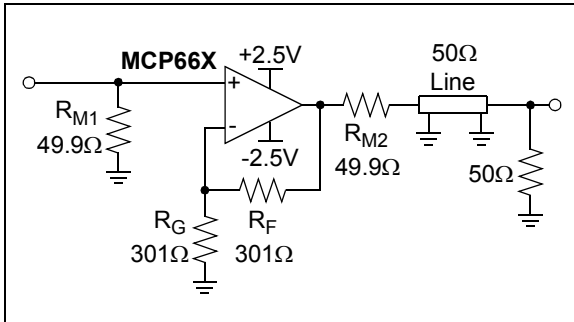

FIGURE 4-10: 50Ω Line Driver.
Differential gain (DG) and differential phase (DP) refer to the nonlinear distortion produced by an NTSC or a phase-alternating line (PAL) video component. The AC Electrical Specifications table and Figure 2-34 show the typical performance of the MCP661, configured as a gain of +2 amplifier (see Figure 4-10), when driving one back-matched video load (150Ω , for 75Ω cable). Microchip tests use a sine wave at NTSC's color sub-carrier frequency of 3.58 MHz, with a $0.286V_{P-P}$ magnitude. The DC input voltage is changed over a +0.7V range (positive video) or a -0.7V range (negative video).
Figure 4-10 shows the MCP661 driving a 50Ω line. The large output current (e.g., see Figure 2-18) makes it possible to drive a back-matched line (R_{M2} , the 50Ω line and the 50Ω load at the far end) to more than $\pm 2V$ (the load at the far end sees $\pm 1V$). It is worth mentioning that the 50Ω line and the 50Ω load at the far end together can be modeled as a simple 50Ω resistor to ground.